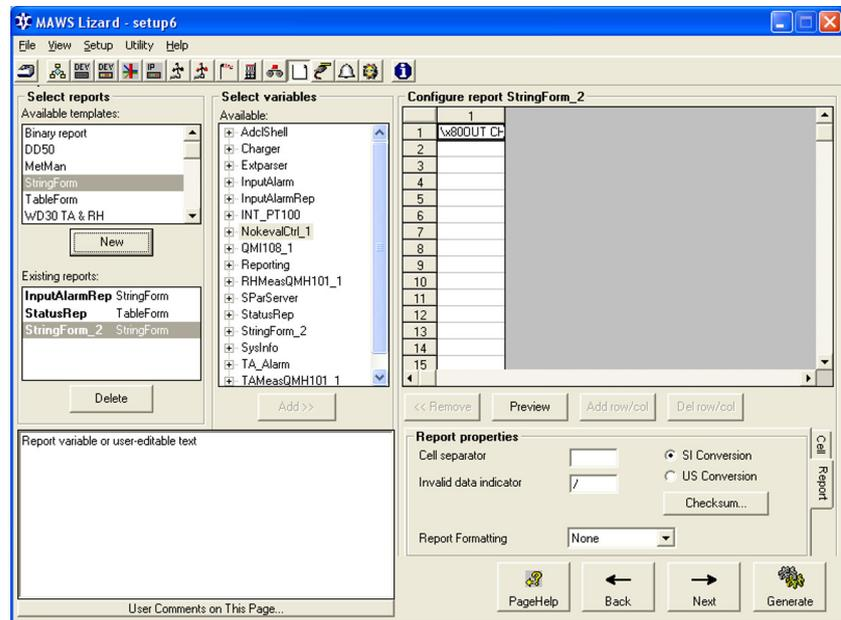

Figure 21 Reports View: Setting Up Report for Nokeval
2. The first cell must contain the address of the Nokeval device to which the command is sent, followed by a valid Nokeval command. For example, `\x80OUT CH 1`. See Figure 21 on page 57.